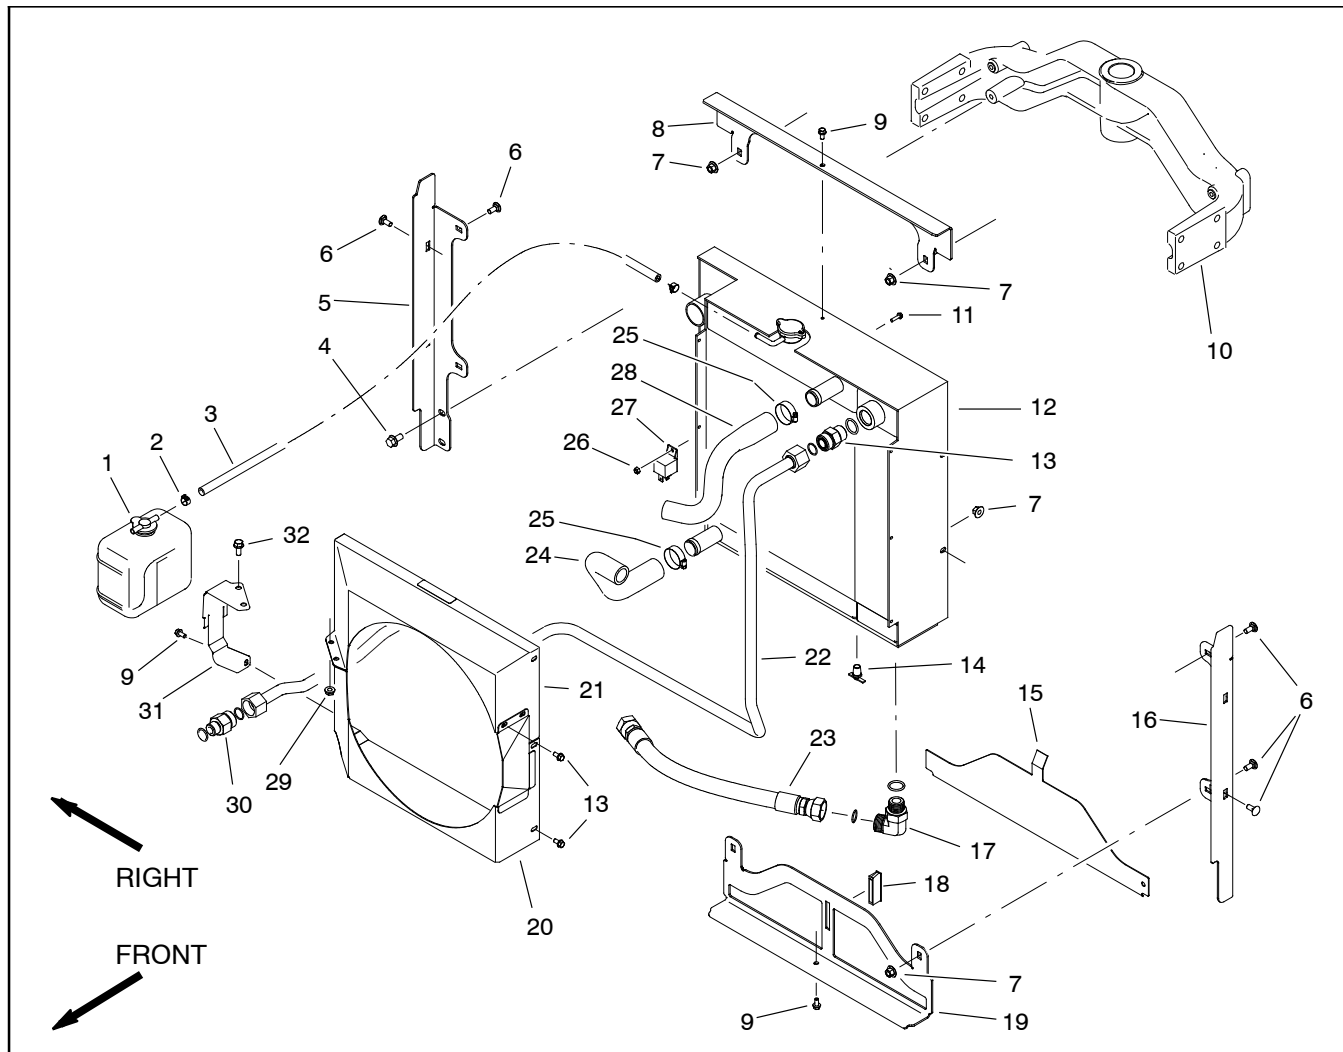

Figure 18
**NOTE:** On machines with serial number above 314000000, the hydraulic oil cooler is combined with the radiator as shown in Figure 18.